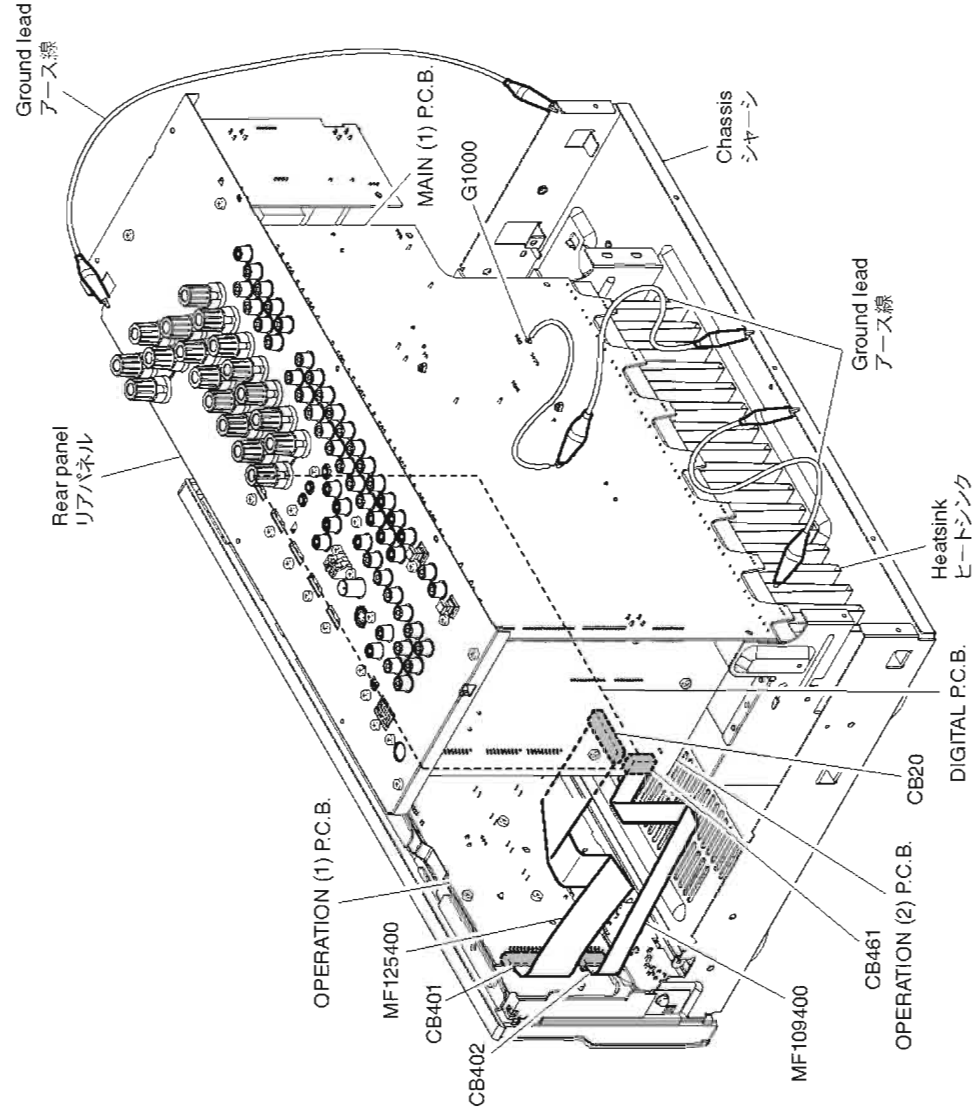

Fig. 3
- Place the P.C.B.s (with rear panel) upright. (Fig. 3)
- Connect the ground points of the heatsink, rear panel and MAIN (1) P.C.B. (G1000) to the chassis with a ground lead or the like. (Fig. 3)
(Fig. 3)
- ヒートシンク、リアパネル、MAIN (1) P.C.B.のG1000のアースをリード線等でシャーシに接続してください。(Fig. 3)